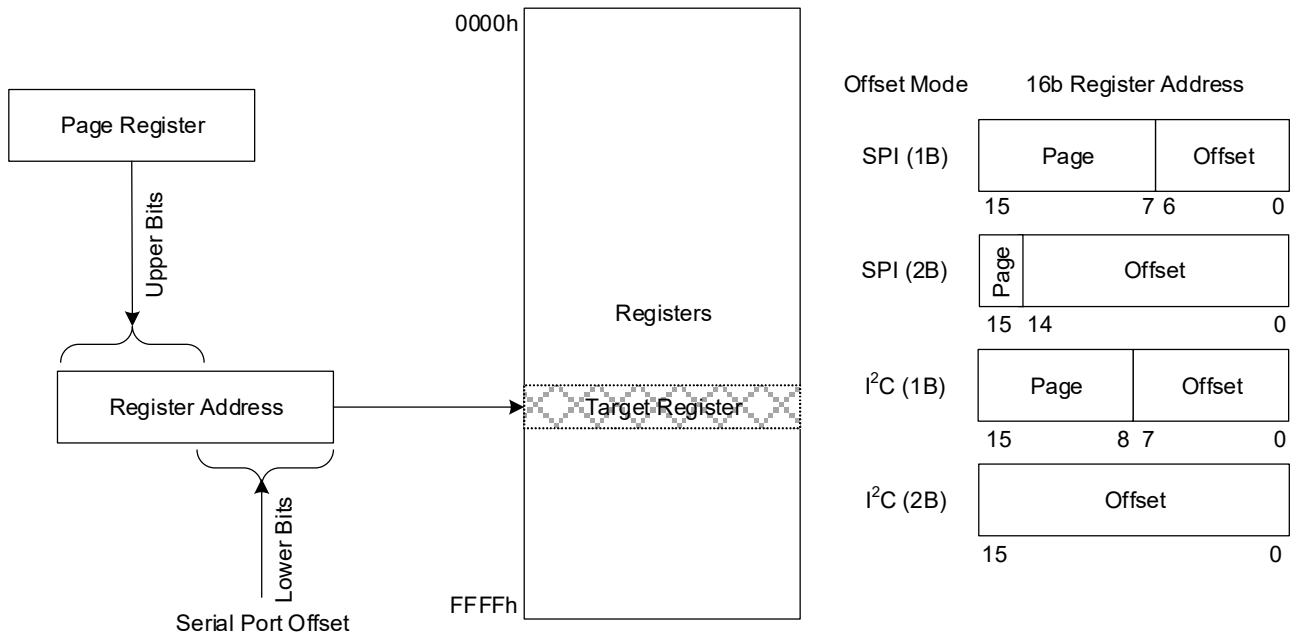

Figure 28. Register Addressing Modes Using Serial Port
You can choose to operate the serial port providing the full offset address within each burst, or to operate in a paged mode where part of the address offset is provided in each transaction and another part comes from an internal page register in each serial port. Figure 28 shows how page register and offset bytes from each serial transaction interact to address a register within the RC38312, RC38112, RC38208, RC38108.
The selection of 1-byte (1B) or 2-byte (2B) offset addressing must also be configured using the `ssi_addr_size` register field. These offsets are used in conjunction with the page register to access registers internal to the device (see Figure 28). Because the I²C protocol already includes a read/write bit with the Dev Addr, all bits of the 1B or 2B offset field can be used to address internal registers.
- 1-byte (1B) or 2-byte (2B) offset addressing (ssi_addr_size) (see Figure 28)